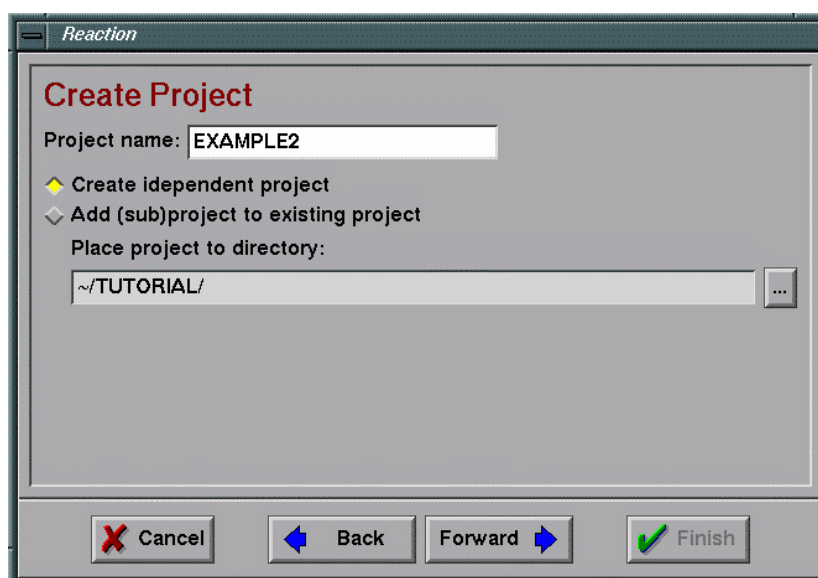
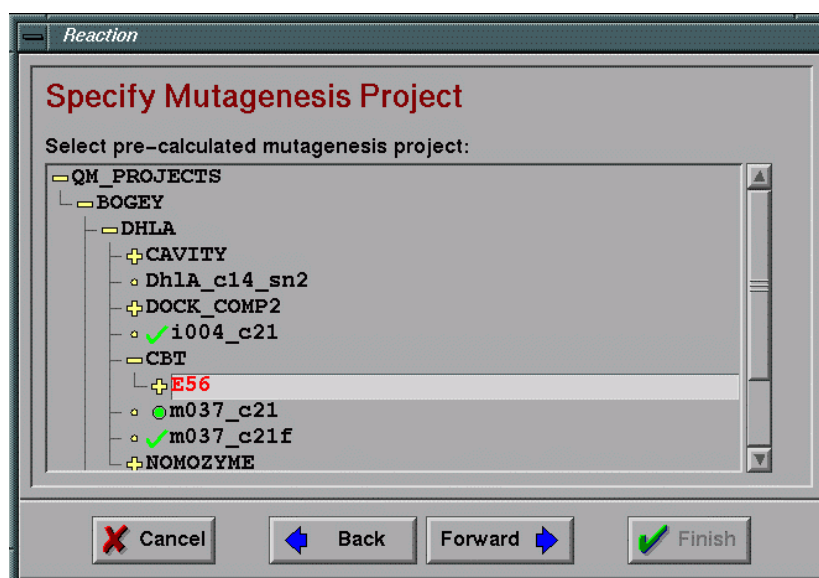
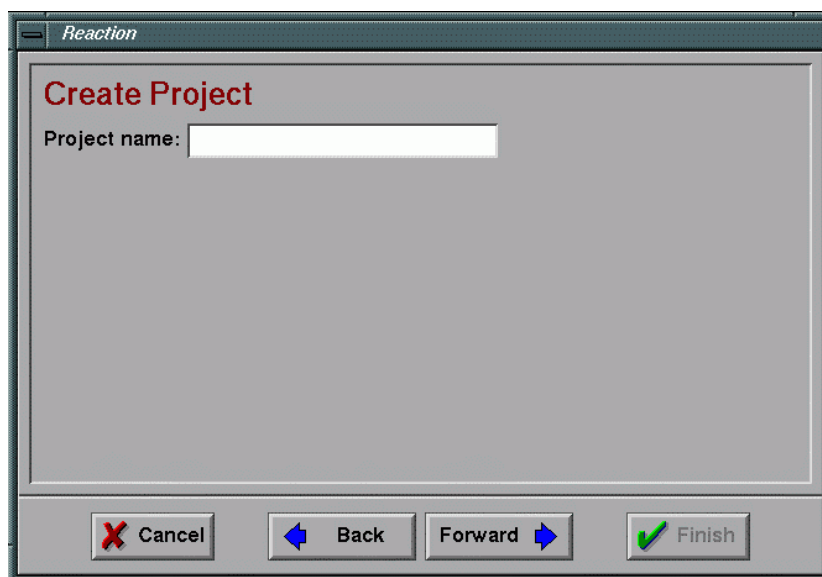

Fig 13.7 Window for specification of project name and its location
Fig 13.8 Window for specification of source mutagenesis project used for preparation of reaction project.
Fig 13.9 Window for specification of reaction project name
- 6) Input the project name into *Project name* field. You can create a new independent project (**Fig 13.7**), add a new project into an existing project or create a new multi-project within existing mutagenesis project (**Fig 13.8**). Using multi-project option will automatically add reaction subproject with corresponding input data for the calculation into each of the mutagenesis projects. The name of the reaction subproject should be specified in following window (**Fig 13.9**).
- Name the project **EXAMPLE2** and place it into MY_TUTORIAL project as its subproject (**Fig 13.7**).